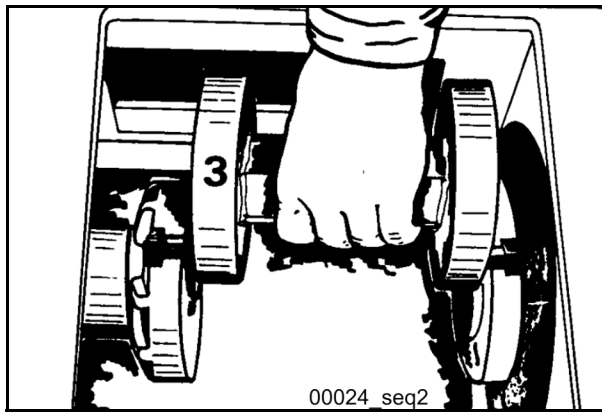

Fig. 189
- Remove the distance piece (3) (**Fig. 189**).